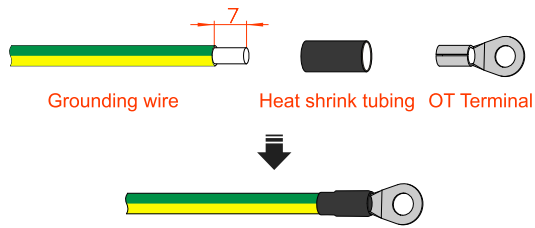

Figure 3-29 Stripping diagram of external grounding wire (unit: mm)
- Step 1 Strip the insulation layer of grounding wire for about 7mm, insert the wire into OT terminal and crimp them by crimping tool, the as shown in Figure 3-29.